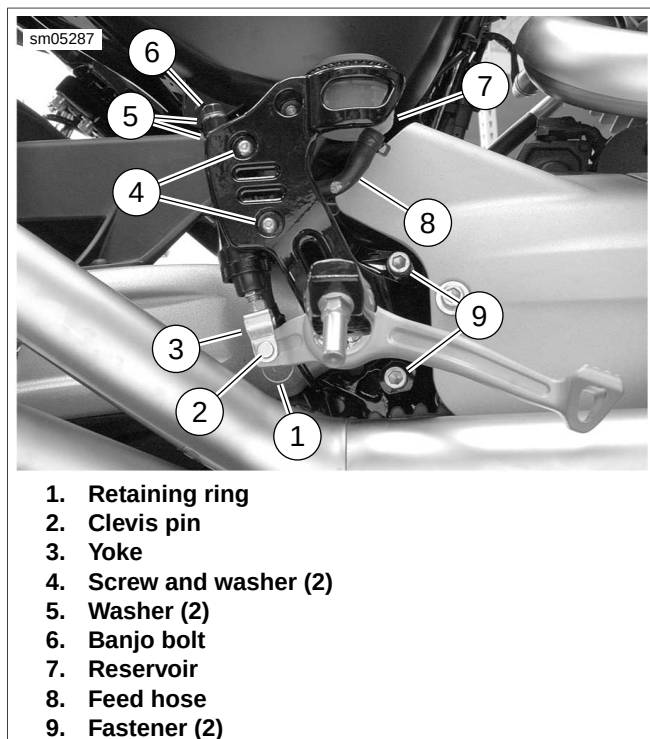

Figure 2-110. Rear Brake Master Cylinder and Reservoir
1. See Figure 2-110. Drain rear brake master cylinder reservoir (7) and remove feed hose (8) from master cylinder feed hose port fitting. See 2.15 REAR BRAKE MASTER CYLINDER RESERVOIR. Discard hose clamp.
1. See Figure 2-110. Assemble and install master cylinder/footpeg mounting bracket if it was removed. See 2.42 RIDER FOOT CONTROLS: XR MODELS.
2. Install rear master cylinder assembly to mounting bracket with screws and washers (4). Tighten to 72-96 **in-lbs** (8.1-10.9 Nm).
3. Fit yoke (3) onto foot pedal. Install clevis pin (2) and secure with **new** retaining ring (1).